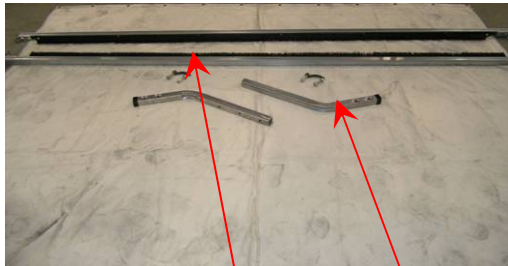

Fig:16.1
- 15.3 Insert the Outrigger Leg into the Outrigger Frame to its fully retracted position Fig 16.1 by pulling up on the Retractable Position Lock and check clearance between the **Floor** and the **Caster Wheel**. There should be **1/4" clearance**. Adjust the Caster position by loosening the Locknut and turning the Caster Clockwise [In] or counterclockwise [Out] as required then tighten Caster Locknut.